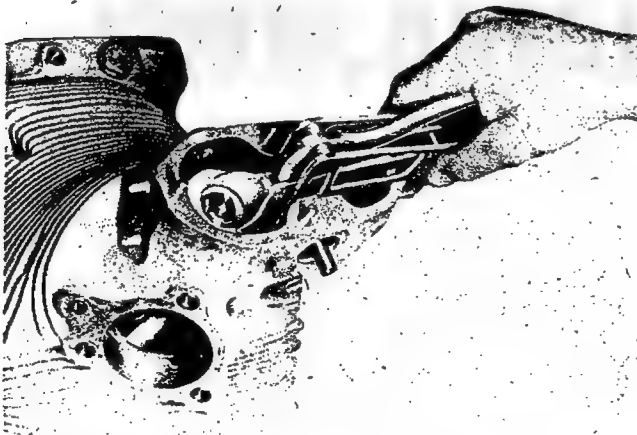

Figure 53—Compressing Valve Springs
(6) Install the spark plug loosely in the cylinder head to prevent the entrance of foreign material.
(7) Lockwire the cylinder hold-down cap screws, using a length of wire for each group of five cap screws. Twist the wire one turn between cap screws and together securely at the ends.
(8) Install the cylinder barrel air deflectors in accordance with the procedure outlined in paragraph 3 of this section.
(9) For cylinders No. 5 and 6 it will now be necessary to install the sump according to the instructions set forth in paragraph 8 of this section.
(10) Install the intake pipe on the cylinder being installed, as well as the adjacent intake pipe which was removed for accessibility. Instructions for this procedure are found in paragraph 5 of this section.
(11) Install the push rod housings, push rods, and rocker arms according to the procedure outlined in paragraph 9 of this section. If interference exists between the rocker arm and standard valve spring washer it will be necessary to replace the valve spring upper washer with one having an undersize bore. See figure 53. This requires removal of the cylinder to a valve